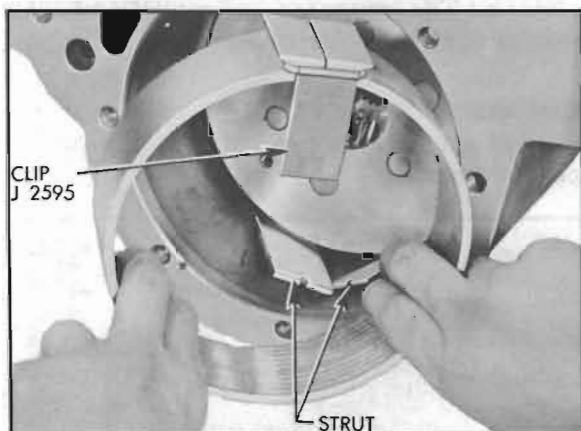

Figure 5-35—Removing Band with Clip J 2595
7. Compress the low band with the operating lever while applying Band Clip J 2595 across the strut flanges of the band. Release the lever and remove low band, then remove the struts which will drop into case. See figure 5-35.